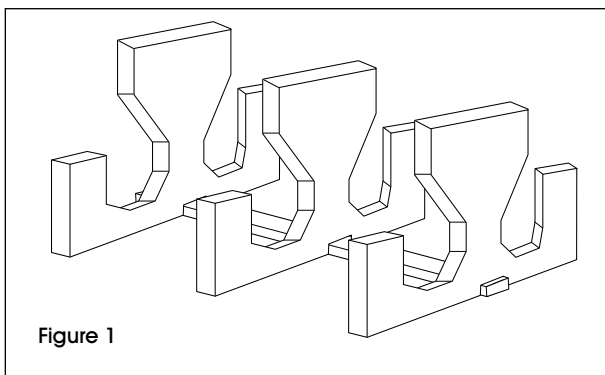

Figure 1
1. Place the three plastic bases on a flat level surface using the base support board to keep them straight. You will attach this board in step 7. (See Figure 1)